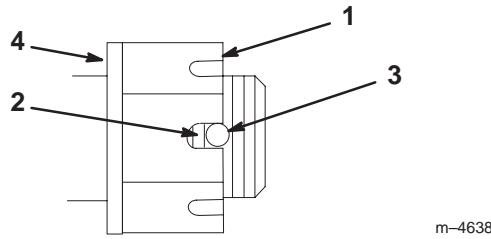

Figure 60
- Torque the slotted nut to 125 ft.-lb. (170 N·m) (Fig. 60).
- Check the distance from the bottom of the slot in the nut to the inside edge of the hole. Two threads or less should be showing (Fig. 60).
- If more than two threads are showing, remove the nut and install the washer between the hub and nut (Fig. 60).
- Torque the slotted nut to 125 ft-lb (170 N·m) (Fig. 60).
- Tighten the nut until the next set of slots line up with the hole in the shaft (Fig. 60).